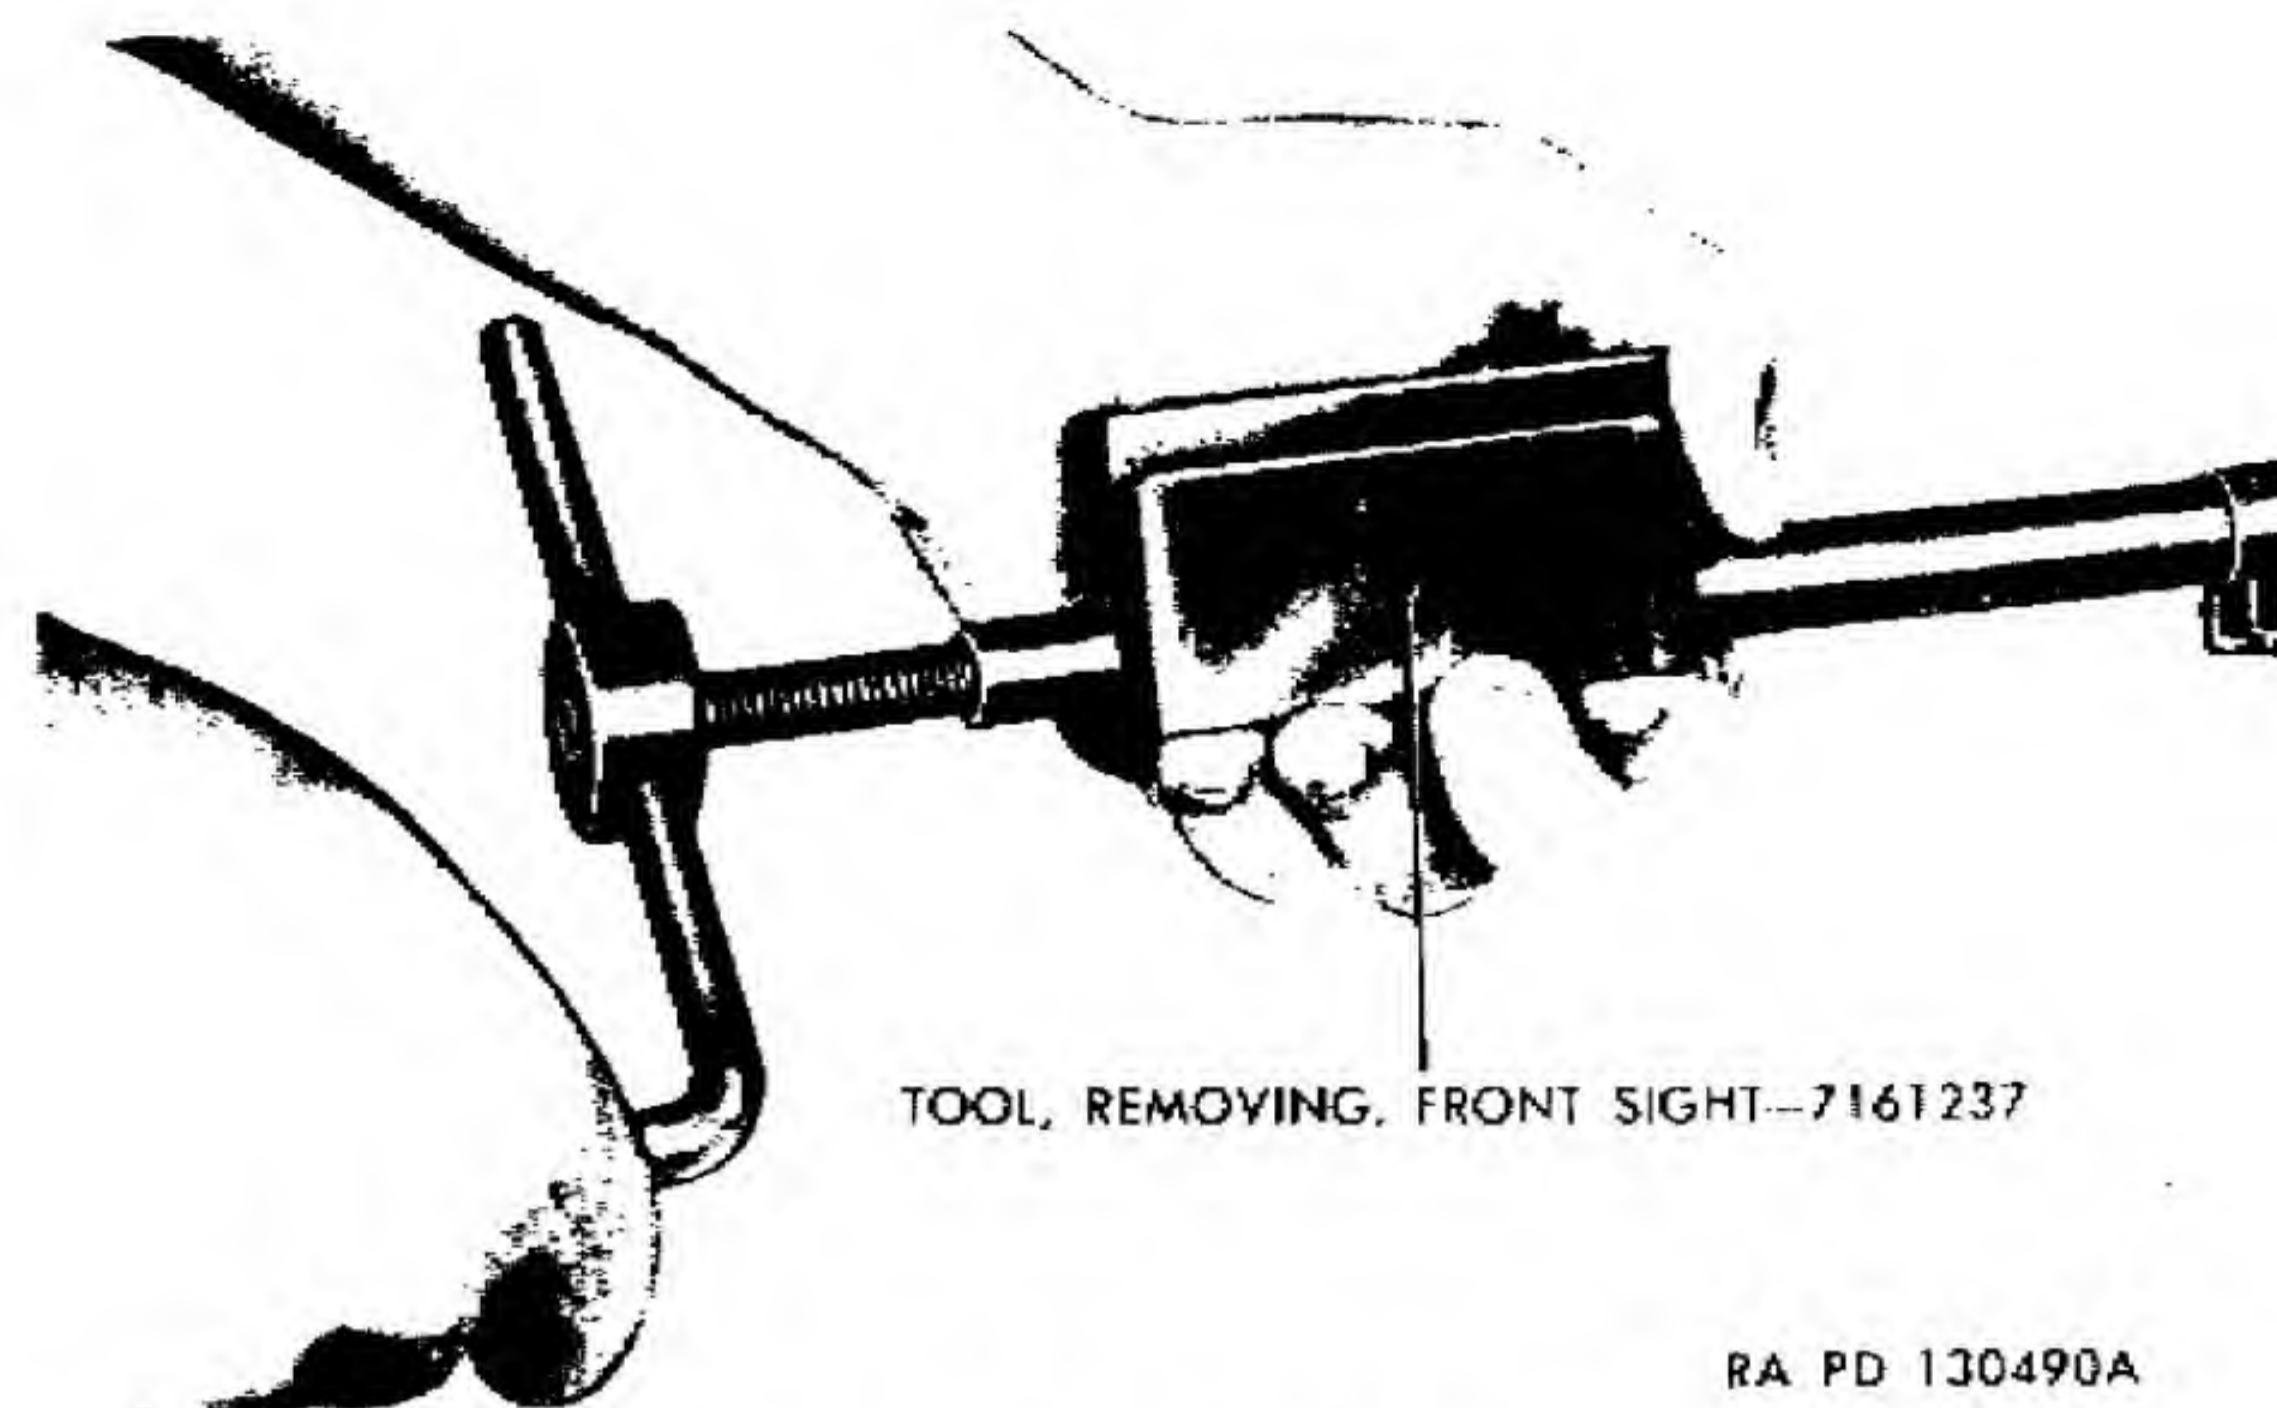

Figure 63. Removing front sight.
- (1) With the barrel and receiver in a padded vise, the muzzle protruding about 1 inch beyond the jaws of the vise, and the front sight vertical, drive out front sight pin from left to right, using a  $\frac{3}{32}$ -inch drift.
- (2) Position front sight removing tool 7161237 (fig. 7) over front sight, hooking it on the rear of the sight (fig. 63).
- (3) Enter pilot of tool screw into end of barrel and remove from sight by turning handle of tool.